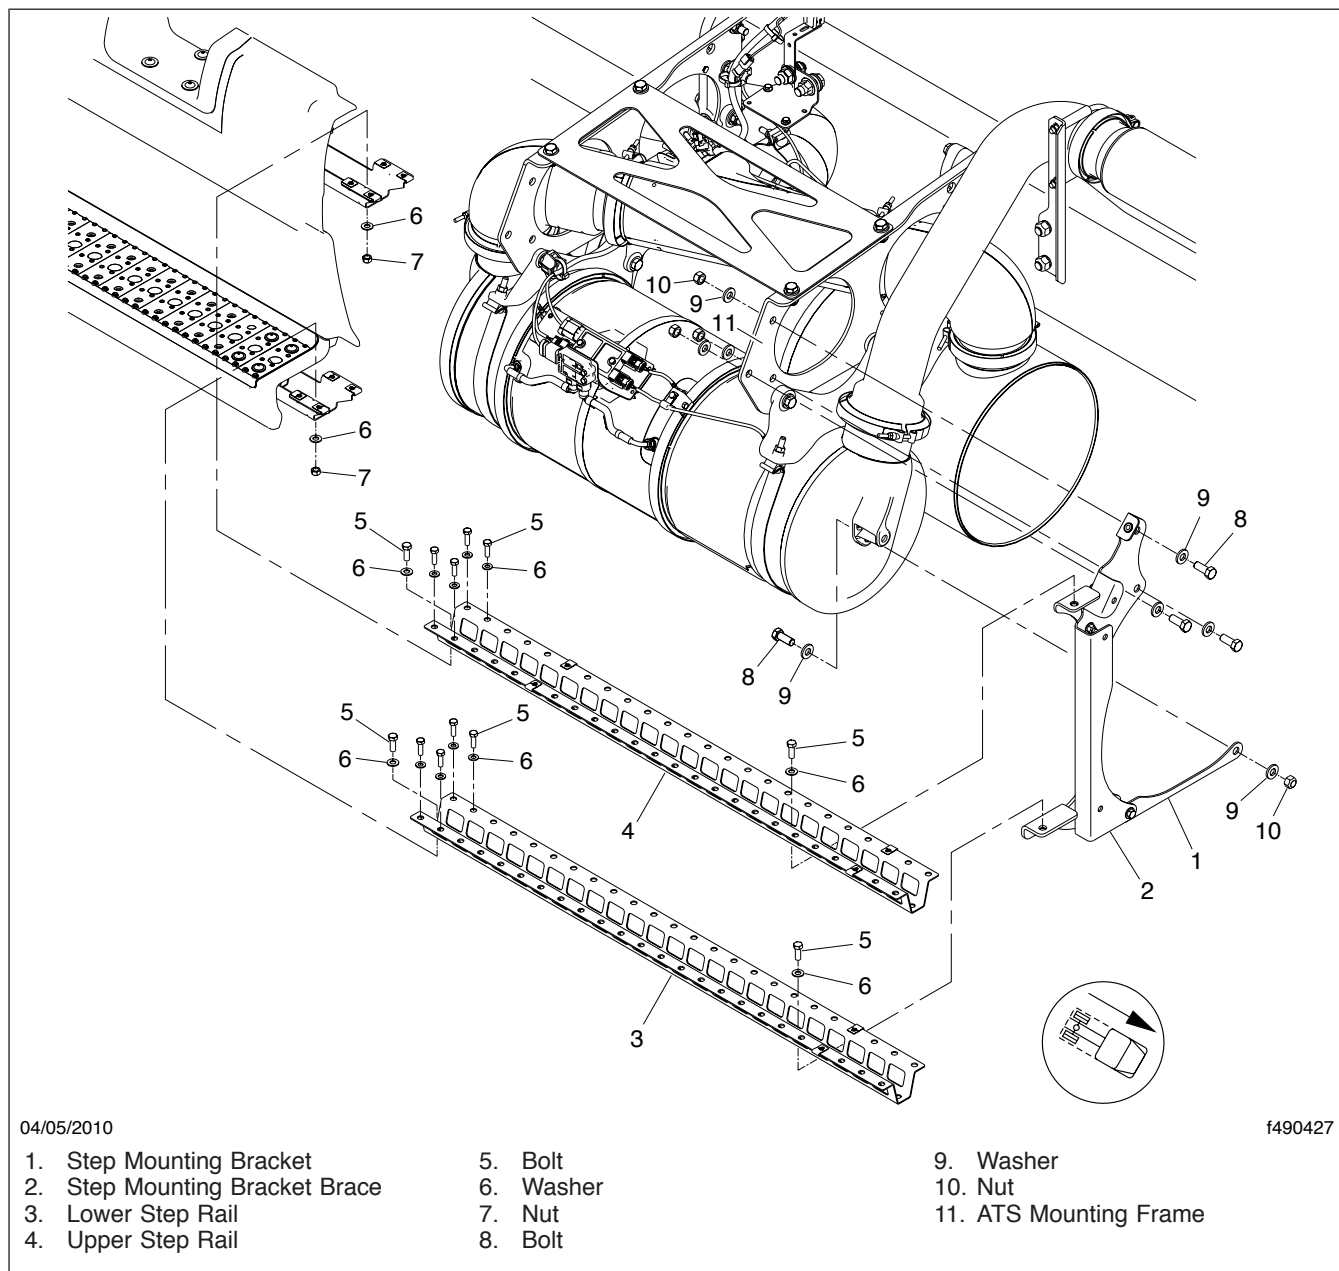

Fig. 2, Step Mounting Bracket and Step Rail Installation
5. Remove the step mounting bracket, brace, and step rails. See Fig. 2.